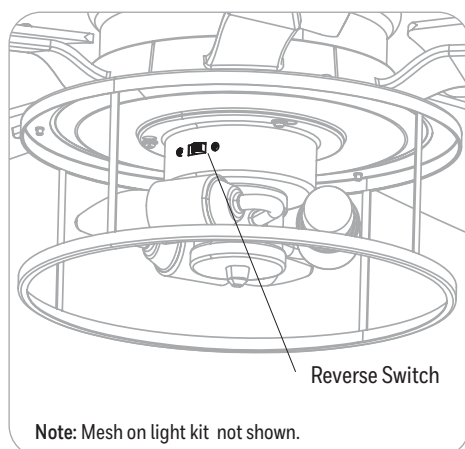

Figure 6.2
2. Use the reverse switch located on the light kit to optimize your fan for seasonal performance. **In warmer weather**, push the reverse switch left which results in downward airflow creating a wind chill effect. **In cooler weather**, push the reverse switch right which results in upward airflow that will help move hot air of the ceiling (Figure 6.2). **Important:** Wait for the fan to stop before moving the reverse switch located on the light kit. The reverse switch must be set either completely left or right in order for the fan to function correctly. If the reverse switch is set in the middle position, the fan will not operate.